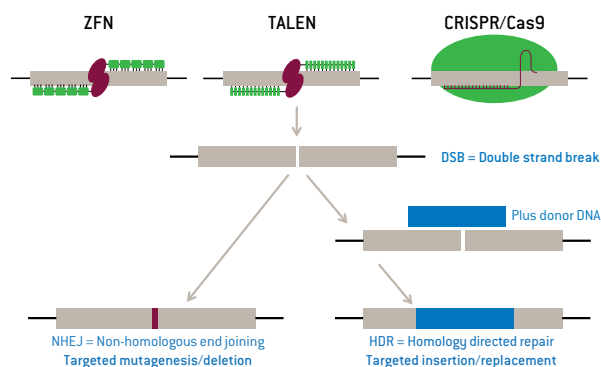

Figure 2. Sequence-specific induction of a double-strand break and subsequent repair processes (simplified scheme).
Zinc finger (ZF) proteins are the most abundant and versatile DNA binding motif in nature⁹. An individual zinc finger domain binds 3 DNA base pairs. Because of their modular structure, they provide an ideal framework for designing an artificial sequence-specific binding molecule. This can be fused to an endonuclease which together mediate sequence-specific cleavage. Since its first proof-of-principle in 1996 by Kim *et al.*¹⁰, ZFN-based genome editing technology has further evolved. The current generation of ZFNs utilizes 5 to 6 ZF domains, which recognize a genomic DNA stretch of 15-18 bp and are fused to Fok I nuclease. Two such zinc finger-nuclease fusion proteins work in combination to bind the sense and antisense strand of the targeted DNA sequence (Figure 2). Once both partners have bound, the Fok1 nuclease can form an active dimer and induce the double-strand break that leads to subsequent cellular repair processes. Since ZFNs target a total of 30-36 bp they provide a highly specific genome editing tool.
In 2009 transcriptional activator-like effectors (TALEs) were discovered to provide a simpler, modular DNA recognition code^{11, 12}. TALEs are naturally occurring proteins from the plant pathogenic bacteria genus *Xanthomonas*, and contain DNA-binding repeats, each recognizing a single base pair. Compared to the triplet-based DNA binding of zinc fingers, this single base recognition mode of TALE-DNA binding repeats enables greater flexibility in design but also holds some cloning challenges. Thus, except for the binding mode, the principle of targeting is very similar. Again sequence-specific, engineered TALEs are typically fused to Fok1 nuclease* to build the TALE-nuclease fusion (TALEN). As with ZFNs, a pair of TALENs must be generated for each target with each monomer binding 13 or more base pairs on the sense or antisense strand of the targeted DNA (Figure 2).
Clustered regulatory interspaced short palindromic repeats (CRISPRs), discovered in 1987 in *E. coli*, were recently shown to provide an even simpler genome editing tool^{13, 14, 15, 16}. The CRISPR pathway is part of the bacterial immune system to defend against invading viruses. This system has been adapted for use in eukaryotic cells. The specificity is driven by a so-called "guide RNA", which typically binds to a complementary stretch of 18-20 base pairs in the targeted DNA (Figure 2) and has some additional sequence motifs that help in forming a complex with the Cas9 nuclease (CRISPR-associated